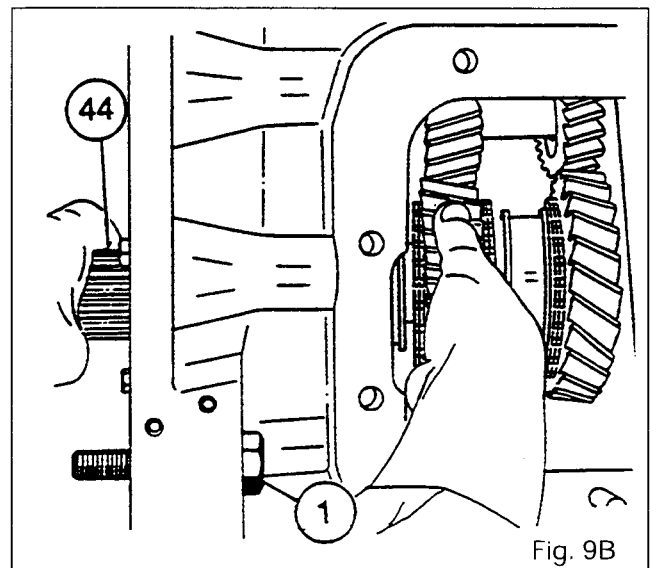

Fig. 9B
34. Engage the output shaft (44) while holding the gear assembly (Fig. 9B).